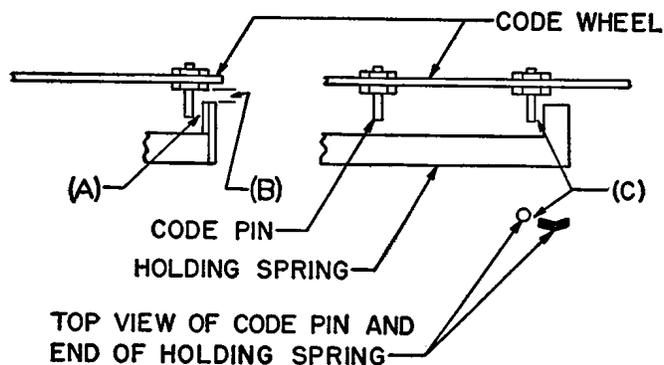

Fig. 9 - Code Wheel and Holding Spring
4.08 CLEARANCE BETWEEN HOLDING SPRING AND CODE PINS, FIG. 9
- a. When the code wheel is revolved by hand, there shall be a minimum clearance of 0.005 inch between the curved end of the holding spring and the inside of the code pins. See Fig. 9 (A).
- b. When the code wheel is revolved by hand, there shall be a minimum clearance of 0.015 inch between the shoulder portion of the code pins and the holding spring. See Fig. 9 (B).
- c. As the code wheel is advanced by the armature, the holding spring in its outward movement shall clear the code pins by a minimum of 0.005 inch. See Fig. 9 (C).